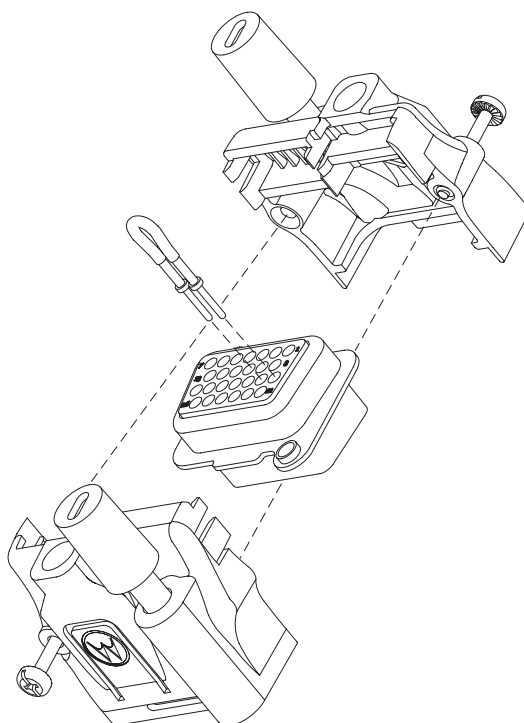

Figure 4-11. Exploded View of Accessory Connector Assembly (HLN6863_)
1. Place the plug in one cover. Be sure that the flange of the plug is in the slot of the cover. See Figure 4-11.